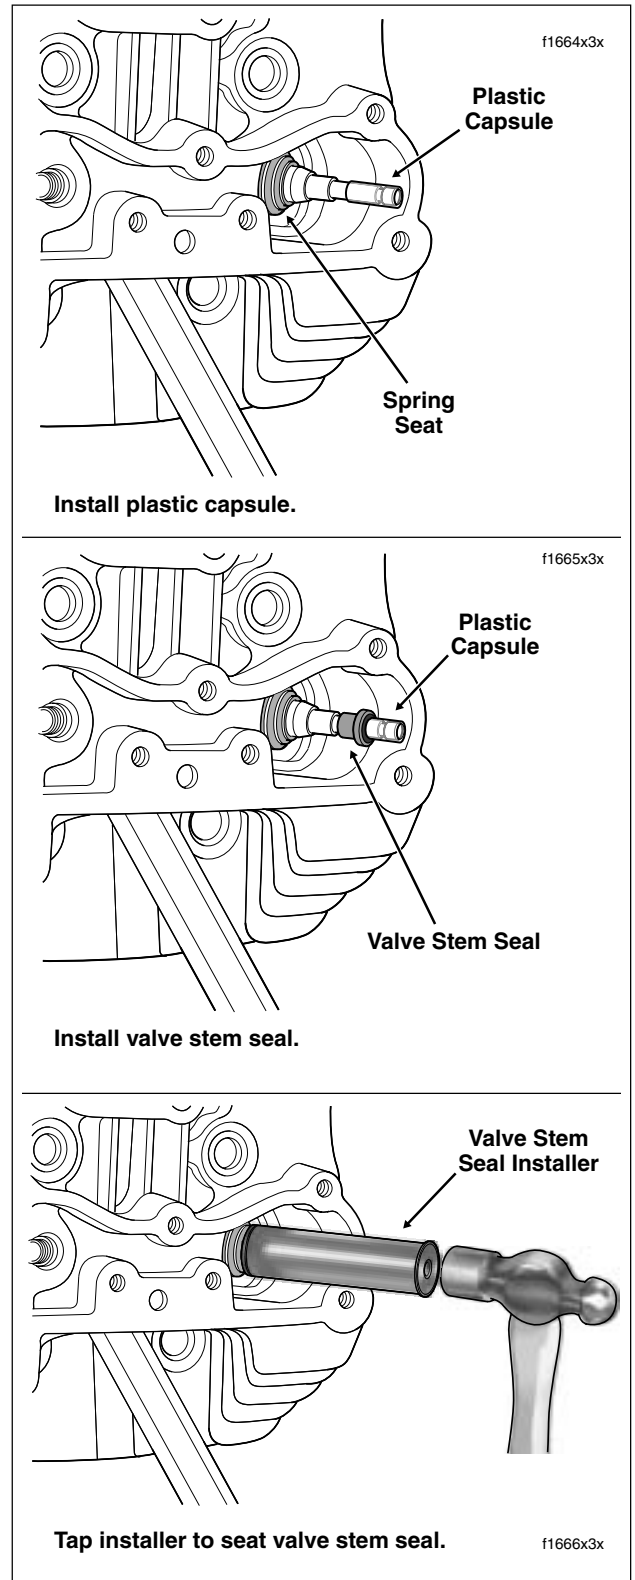

Figure 3-83. Install Valve Stem Seal
11. Push on bottom of valve until it contacts the valve seat. Placing finger at bottom of valve to keep valve seated, slide plastic capsule over valve stem tip and keeper groove. See upper frame of Figure 3-83.
12. Apply a very thin film of clean H-D 20W50 engine oil to capsule. Slide **new** valve stem seal over capsule and down valve stem until contact is made with top of valve guide. See center frame of Figure 3-83. Remove capsule from valve stem tip.
- b. Using a small hammer, gently tap the end of the tool until it lightly bottoms on the installed spring seat. See lower frame of Figure 3-83. For best results, brace the cylinder head with chest area to prevent movement during seal installation.